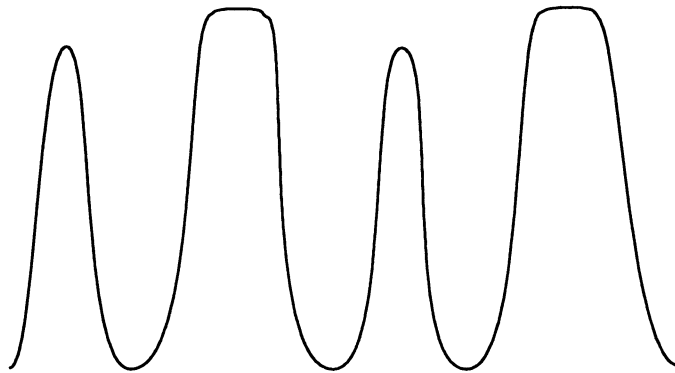

Figure 19. Two-Level Periodic Pattern - Points A and B (2 Cycles)
Step 2. Place the front panel switch in the OPT MODE position. The PS-FRED module transmits the pattern shown in Figure 19 and can be observed on the TX Audio Out + line of the PS-FRED module (point A) and the microwave RX Modem Audio Out + (point B).